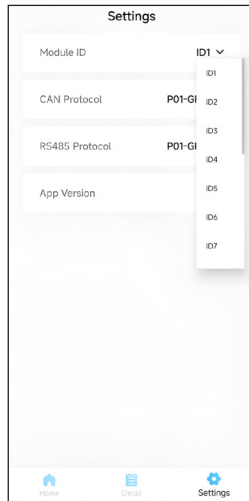

Figure 9: ID Address Configuration
4. Select the ID address. Enter the 'Settings' interface. Click on 'Module ID' and select the appropriate ID, as shown in Figure 9. The default selection is ID1. The master battery that connects to the meter must be set to ID1. The next battery in the daisy chain should be set to ID2, and so on. All batteries need to have a unique ID address in order for them to properly communicate with each other. Reset the battery after any changes made in the app.